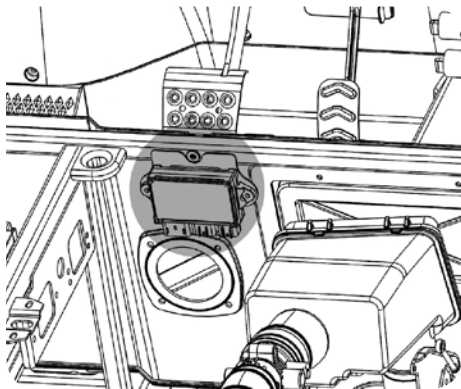

Figure 5-22
2. Open the mini fuse box cover. See Figure 5-22.